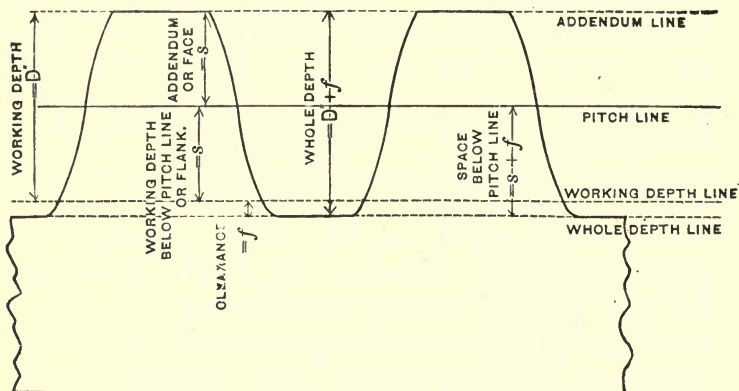

FIG. 155.
**341. Gearing Terms.**—There are certain terms relating to gears with which the mechanic should be familiar. Some of the most important of these are explained below. (See Fig. 155.)